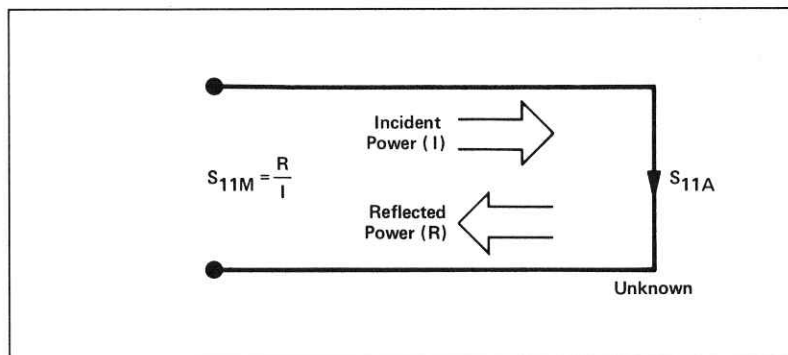

Figure A5-2
The reflection coefficient is measured by first separating the incident signal (I) from the reflected signal (R), then taking the ratio of the two values (Figure A5-2). Ideally, (R) consists only of the signal reflected by the test device (S11A).